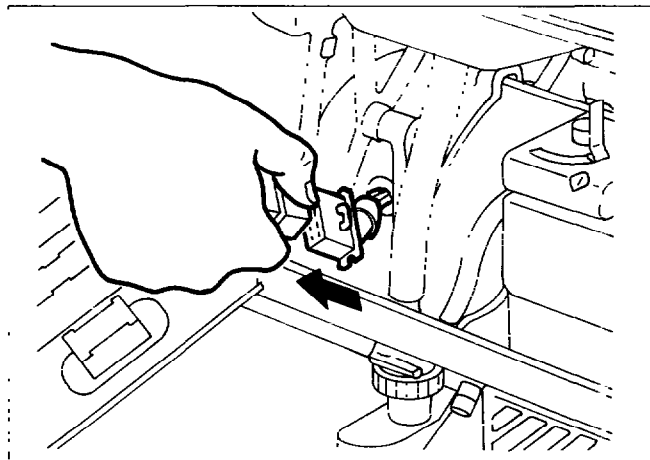

Fig. 10-4
| 4. | Couplers and plugs (Disconnection) | (1) Disengage the couplers of stator wires from the wires of control panel. 6P couplers (Yellow, Red, Green/ Yellow, Brown, White) (See Fig. 10-4.) | Pull the couplers while pushing the locking hook. | |